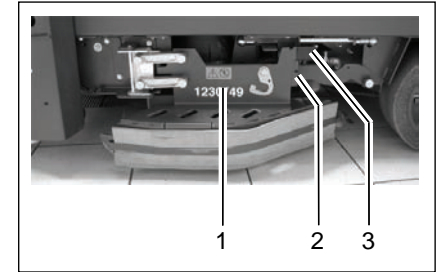

Fig. 5
Open the deflector (Fig. 5/1) before assembling or disassembling brushes and pads:
1. Take hold of the deflector (Fig. 5/1) by the grip (Fig. 5/3).
2. Raise the deflector (Fig. 5/1) and pivot outwards to the front.
3. Lower the deflector (Fig. 5/1) (service position).
1. Open the deflector (Fig. 5/1), refer to paragraph "Opening and closing the deflector".
- Close the deflector, refer to paragraph "Opening and closing the deflector". The deflector (Fig. 5/1) is now in its working position.
- Open the deflector (Fig. 5/1), refer to paragraph "Opening and closing the deflector".